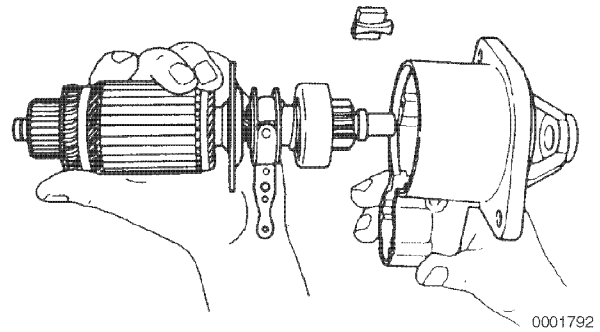

Figure 8-10
13. Pull out the armature assembly from the gear housing (**Figure 8-10**).